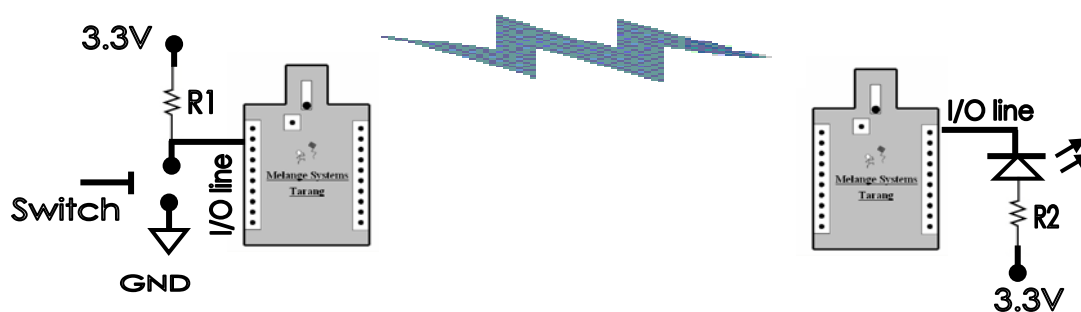

Fig 5.2 Example of I/O interface in an application
Note: Instantaneous maximum current is 20mA per pin and overall pin limit is 60mA hence set up as shown in fig 5.2 is applicable for maximum of 2 I/Os. Use appropriate current limiting resistors or alternate driving circuits when interfacing based on the application.
The I/O interface includes wide range of applications. The figure 5.2 is an example of I/O interface in an application to control the low power LED wirelessly in which ID0 (first I/O line) is used. The switch is interfaced to first I/O line (ID0) of Tarang module whose I/O pins are configured as Digital inputs with command ATID02 and a LED is interfaced to first I/O line (ID0) of another module whose I/O pins are configured as output. The change state of switch in input
4. Once after configuring the modules make setup as in fig 5.2. Example I/O interfaces in an application with R1 as 10 K and R2 as 330 Ohms.